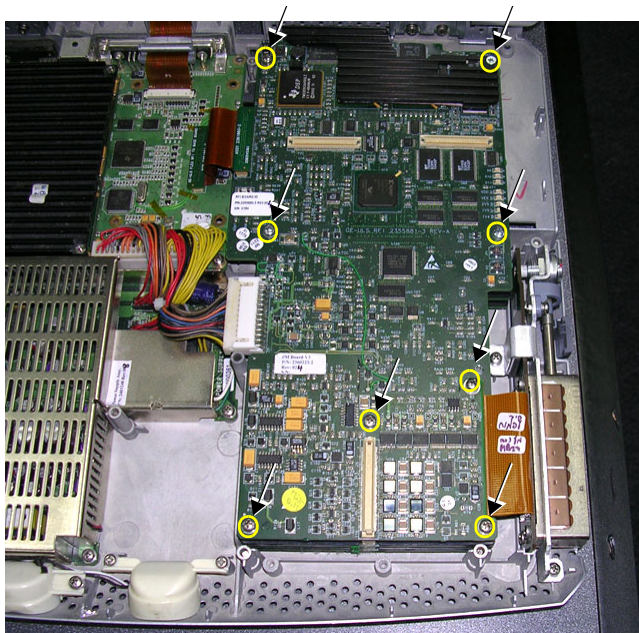
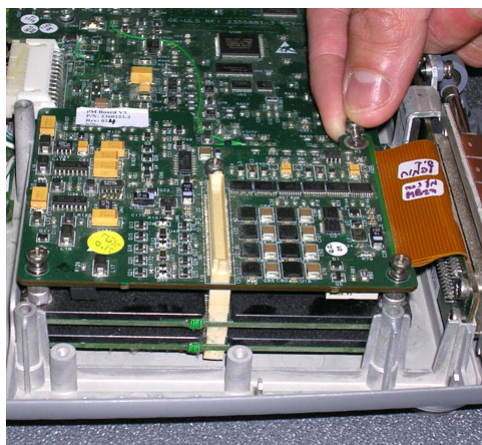

Figure 8-44 Loosen Screws that Secure TR32 and RFI Boards to Bottom Assembly
Figure 8-45 Removing the Screws
- 3) Loosen the eight screws that secure the TR32 and RFI Boards to the Bottom Assembly, as shown in Figure 8-44 below.
- 4) Remove the eight screws - see Figure 8-45.
- 6.) Return the eight screws and fasten the TR32 and RFI Board assembly firmly in position on the Bottom Assembly (refer to Figure 8-44 and Figure 8-45 on page 8-40).